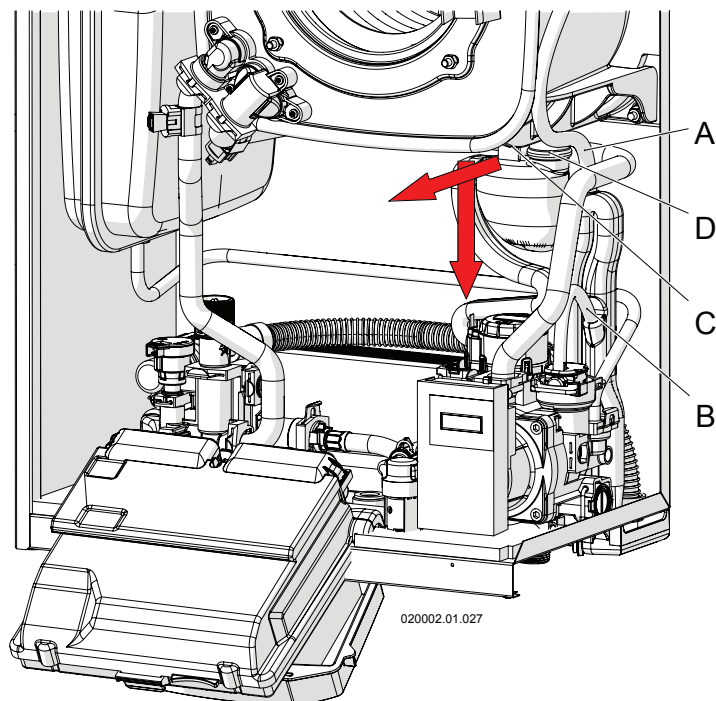

Figure 8-6 – Removing the condensate collection siphon
For correct cleaning of the collection siphon and conveying of the condensate produced by combustion, operate as follows (refer to the figures 8-6, 8-7 and 8-8):
- 1.- With the boiler on, force the heating to its maximum, following the procedure described in section 8.16 so that the burner runs at maximum power and the level of liquid inside the siphon tank "D" lowers (see figure 8-6). Then turn off the boiler and disconnect it from the power supply;